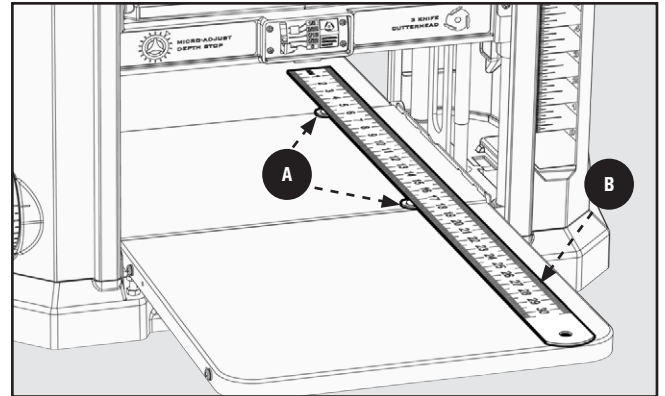

FIGURE 24
2. Place a dime **A** Figure 24 at each end of the Wear Table (in-feed and out-feed).